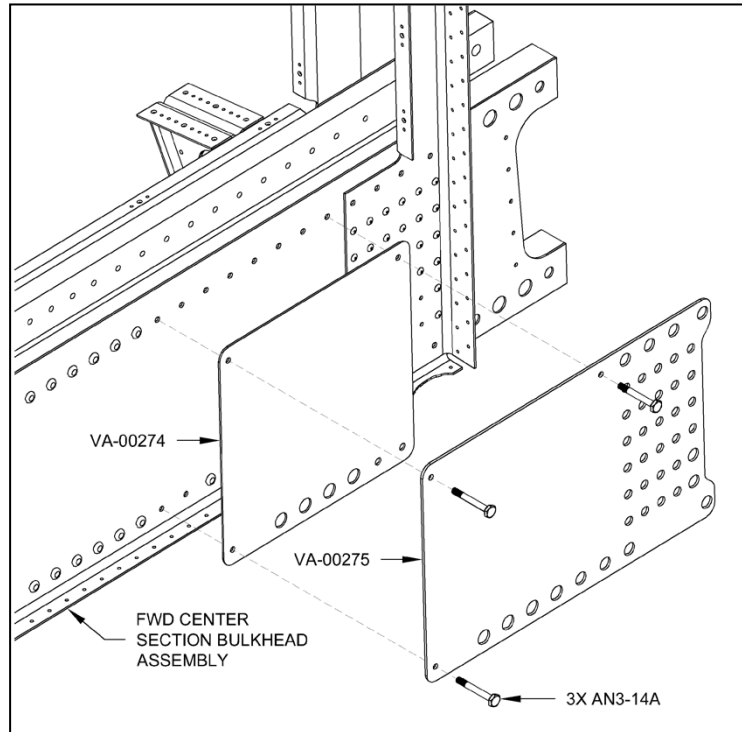

FIGURE 4: POSITIONING THE DRILL TEMPLATES
Step 19: Position the VA-00274 and VA-00275 Drill Templates on the center section, over the holes for the left landing gear mount, and insert the three bolts shown in Figure 4. Secure the bolts with lightly tightened nuts.